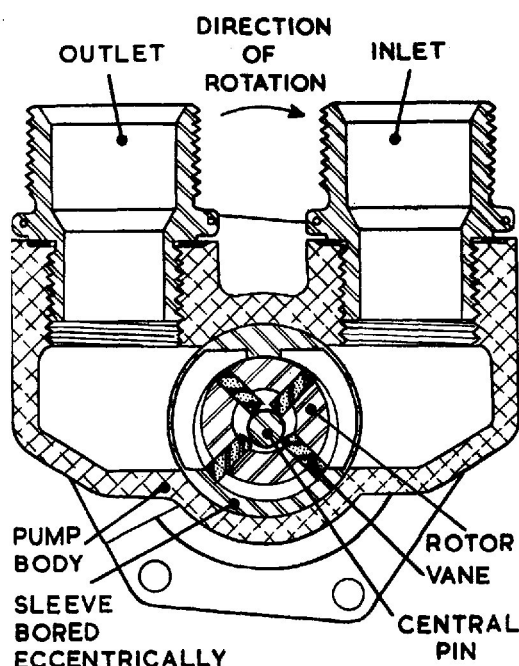

Fig. 3. Cross-sectional view
11. The pump is of the single-stage positive displacement type. The action, in the present design, will be evident from the cross-sectional view (fig. 3). This shows, also, how the rotating vanes are constrained to slide in the rotor; the central pin is floating.